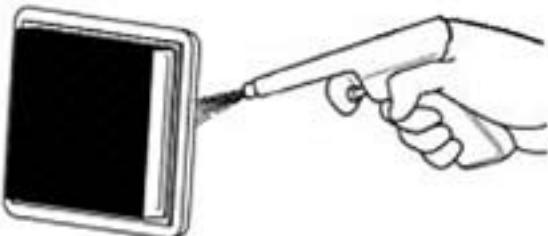

Figure 13
3. Blow off dirt from filter element with compressed air. (See Figure 13)